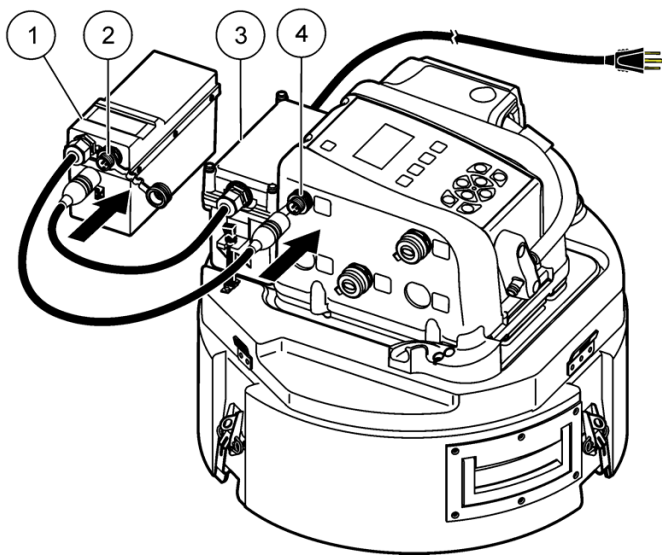

Figure 3 Battery installation for SD900 Portable Sampler
5. Connect the power supply output cable to the input receptacle of the battery backup (Figure 3 on page 4).
6. Connect the output cable of the battery backup to the controller power connector (Figure 3 on page 4).